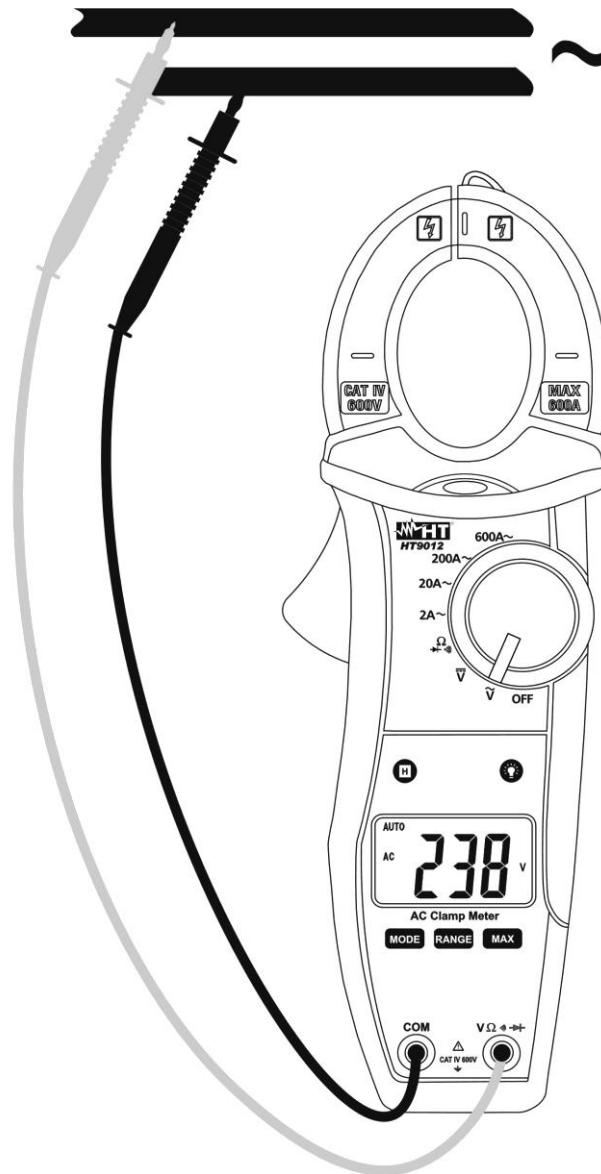

Fig. 4: Taking AC voltage measurement
4. Insert the red test lead plug into $V \Omega \rightarrow \sim$ jack and the black test lead plug into **COM** jack (see Fig. 4)
5. Connect the two long ends of test leads to the desired circuit (see Fig. 4) then reading will be displayed